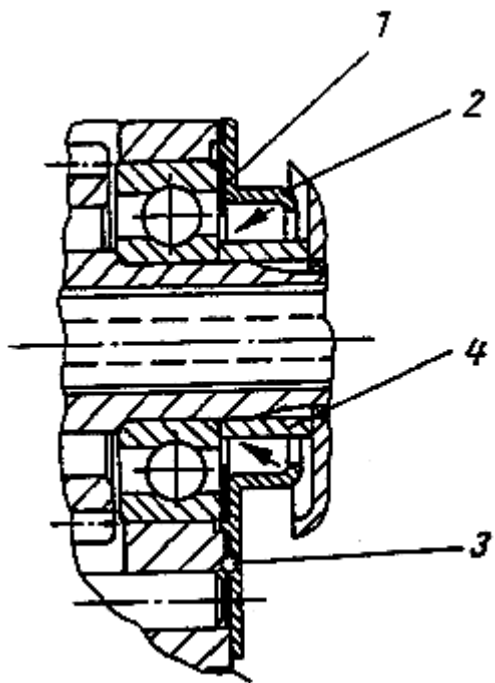

Fig. 58. Aligning the sealing cap of the shank wheel
Slightly grease the lip at the sealing rings of the sealing cap - slip on the spacer sleeve (4 in Fig. 58). Fit the gearbox sprocket wheel (opening directed to the engine) and the lock plate. Tighten the nut having a width across flats of 27 mm with a torque of 60-12 Nm (6-12 kpm) (**right-hand thread**), use the holder-on (1) for this purpose and fold over the lock plate.